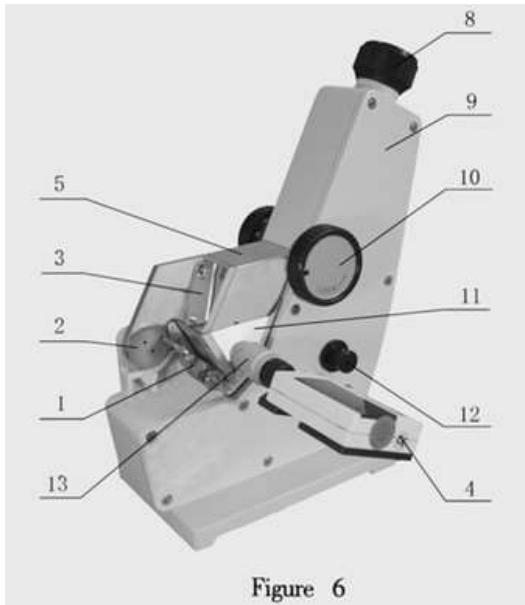

Figure 6
4.2 Construction (see Figures 6 & 7)